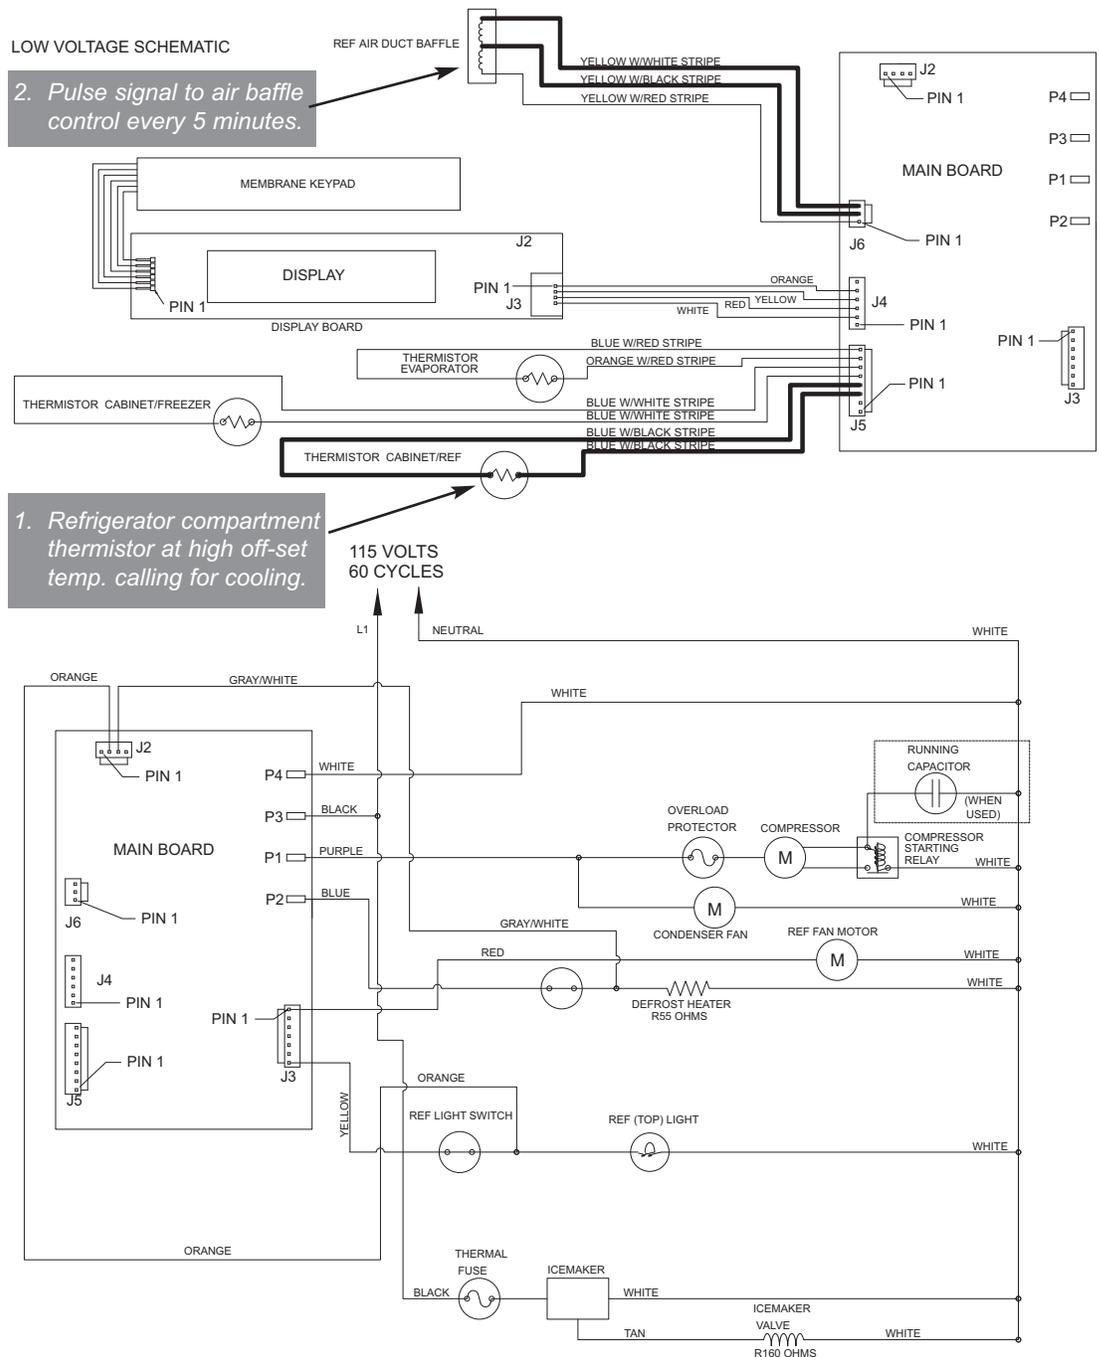

Figure 3-19. UC-24C Signal Trace - Regulate Refrigerator Zone
When the thermistor in refrigerator compartment reaches high off-set temperature, calling for cooling, the micro-processor sends an 18 Volt pulse signal to the air baffle control to open, regardless of operational state of the compressor. When calling for cooling, the microprocessor repeats sending a pulse signal every five (5) minutes to the air baffle control to open. (See Figure 3-19)